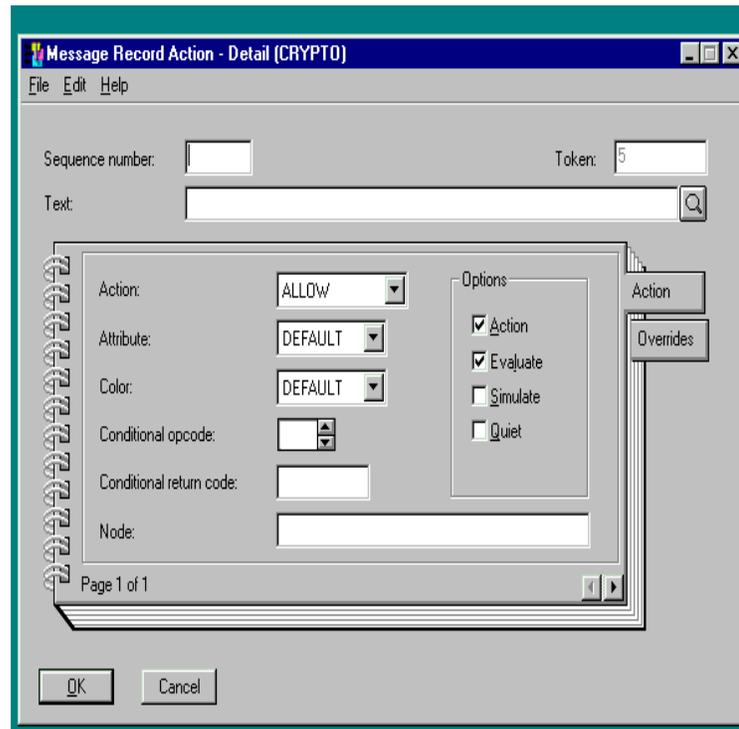

Figure 8-5. Message Record Action Detail Window
- From the menu bar select **Selected**, then **New** to define a new action. This brings up a new window, Message Record Action Detail. (See Figure 8-5.)